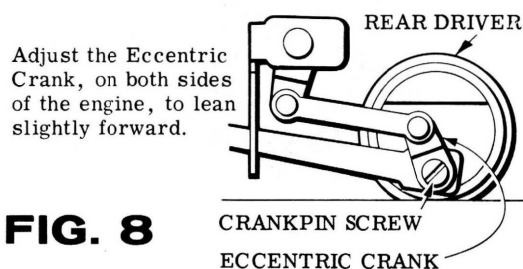

FIG. 8
F. Drop ends of mainrods over crankpins on rear drivers then secure eccentric cranks with Crankpin Screws 110269. Before tightening the crankpin screws position the eccentric cranks as shown in FIG. 8 at the right.